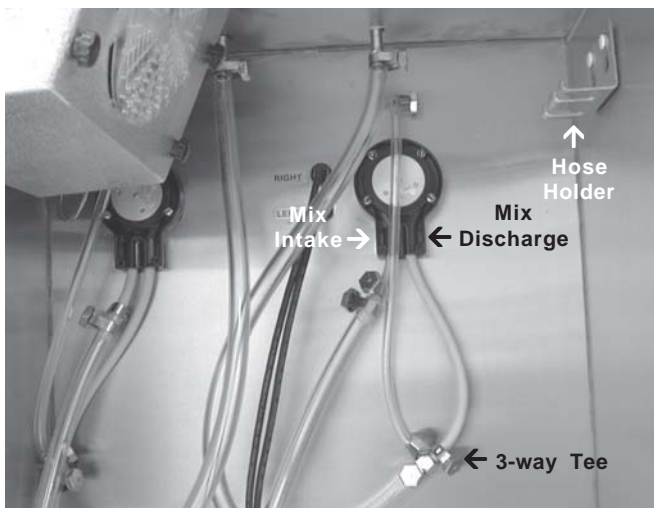

Figure 23. Mix Pumps
- A. **Mix Operation:** The peristaltic mix pump contains one continuous mix pump hose. When looking at the face of the peristaltic mix pump, the left side of the hose is the suction or pickup. The right side of the hose is the discharge. Mix is drawn up the suction side of the hose and transferred thru the discharge side to the freezer (see Figure 23).